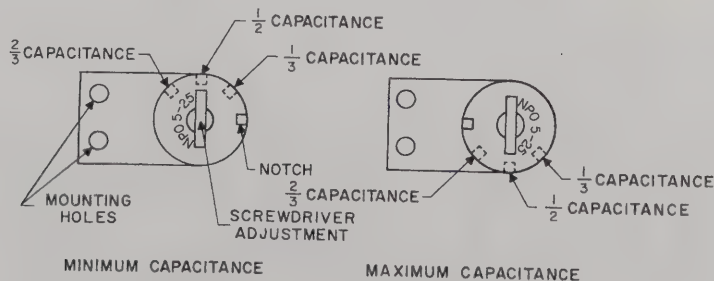

Figure 4-2. Ceramic Trimmer Capacitors
- Adjust (A) 3.5 trimmers (C101, C41, C52, and C69) to 2/3 maximum capacity. Adjust C65, (C)14 DRIVER PLATE trimmer, to 1/3 maximum capacity. Adjust all other ceramic trimmer capacitors, except CAR BAL capacitor C11, at 1/2 maximum capacity. Make no changes in settings of neutralizing capacitors C55, C57, and C71. Figure 4-2 shows maximum, minimum, and half-capacity settings of ceramic trimmers.